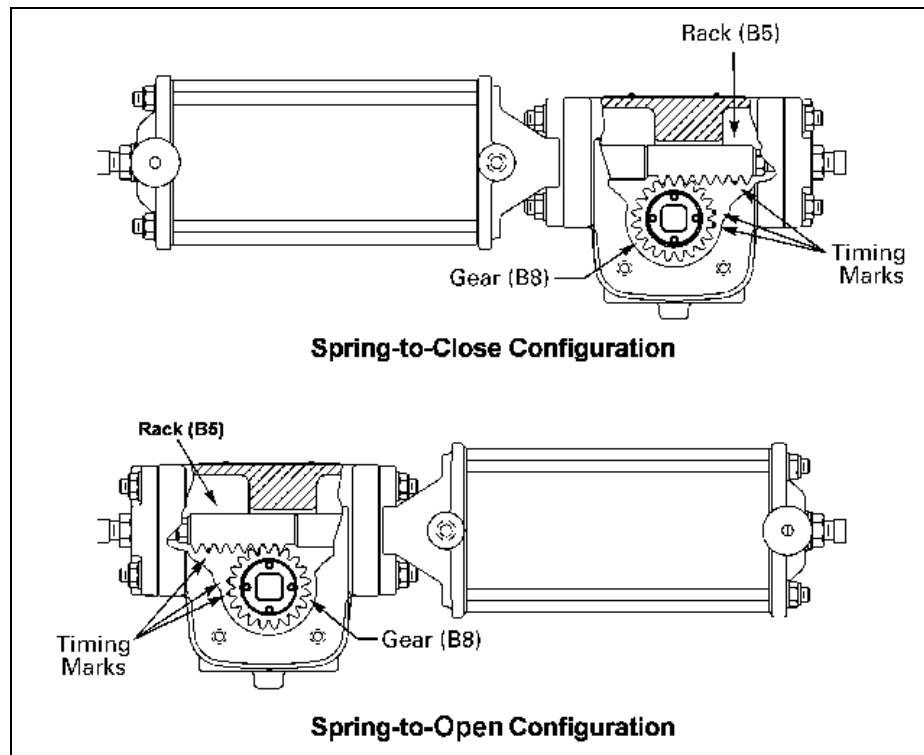

Figure 7—Gear Alignment
9. With the four tapped holes facing down, place the gear (B8) into the housing bearing (B2), and engage the gear teeth with the rack (B5) teeth so that the marked tooth on the rack and the two marked teeth on the gear are positioned as shown in Figure 7: